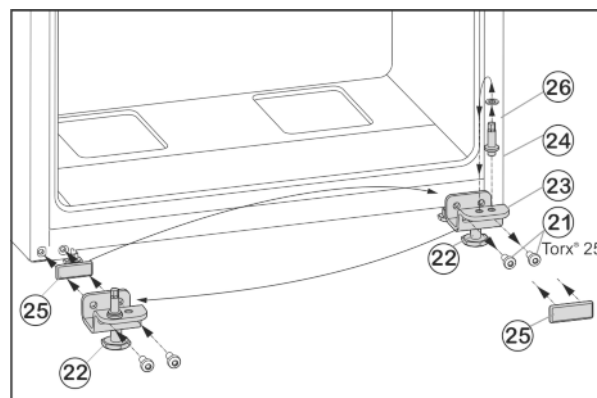

Fig. 7
- ▶ Unscrew fastening screws Fig. 7 (21).
- ▶ Remove the lower bearing block Fig. 7 (23), complete with bearing bolt Fig. 7 (24), washer Fig. 7 (26) and adjustable foot Fig. 7 (22).
- ▶ Unscrew the bearing bolt Fig. 7 (24), complete with washer Fig. 7 (26), re-locate it into the mounting hole on the opposite side of the bearing block and tighten again.
- ▶ Carefully remove the cover plate Fig. 7 (25) and re-locate it to the other side.
- Fasten the lower bearing block *Fig. 7 (23)*, complete with bearing bolt *Fig. 7 (24)*, washer *Fig. 7 (26)* and adjustable foot *Fig. 7 (22)* to the new hinge side, with the help of a cordless screwdriver if necessary, and **tighten (with 4 Nm)** once again.
- Lower the bottom door onto the bearing bolt *Fig. 7 (24)*.
- Unscrew the adjustable foot *Fig. 7 (22)* on the lower bearing block *Fig. 7 (23)* until it reaches the floor.